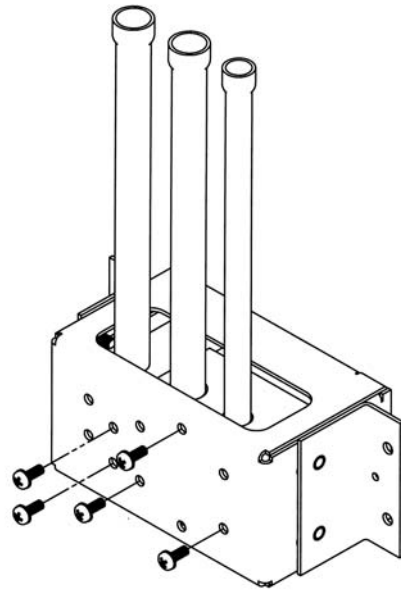
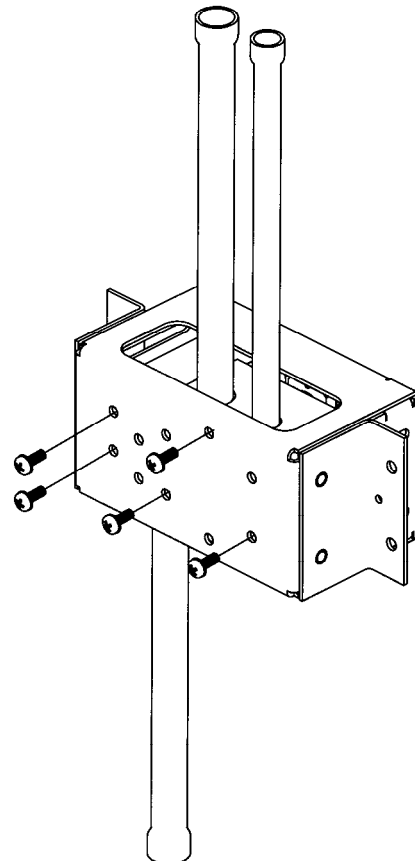

Figure 2
Figure 3
This portion of the 6255-1 outlet station has the option of unscrewing the gas block, ( $N_2O/O_2$ ) (Figure 2) from the support plate (three screws), inverting the block so the pipes may extend downward (Figure 3).
2.2. **IMPORTANT:** When remounting the blocks to the support plate use the *lower* set of holes on the plate (Figure 3) to insure the faceplate will line up. (Note: This is only when pipes are pointing down.)